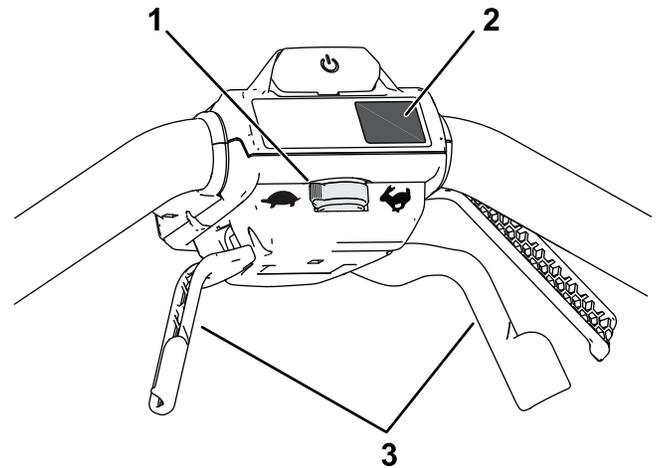

Figure 12
- To adjust the self-propel movement speed, adjust the speed control (Figure 12).
- To engage the self-propel drive, pull the self-propel drive handles up to the handle and hold them (Figure 12).
Press the MAX button below the On button to set the machine to MAX speed (Figure 12).